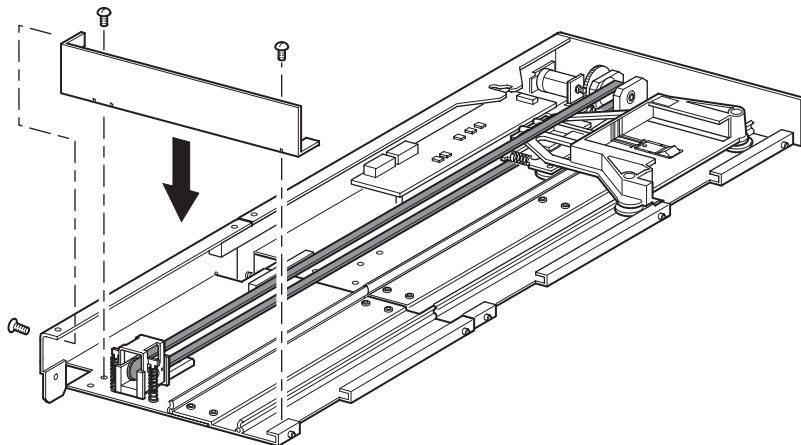

Figure 23 Installing the bottom plate
11. Install the bottom plate that was previously removed from the PTM base unit using the previously removed retaining screws (see Figure 23).